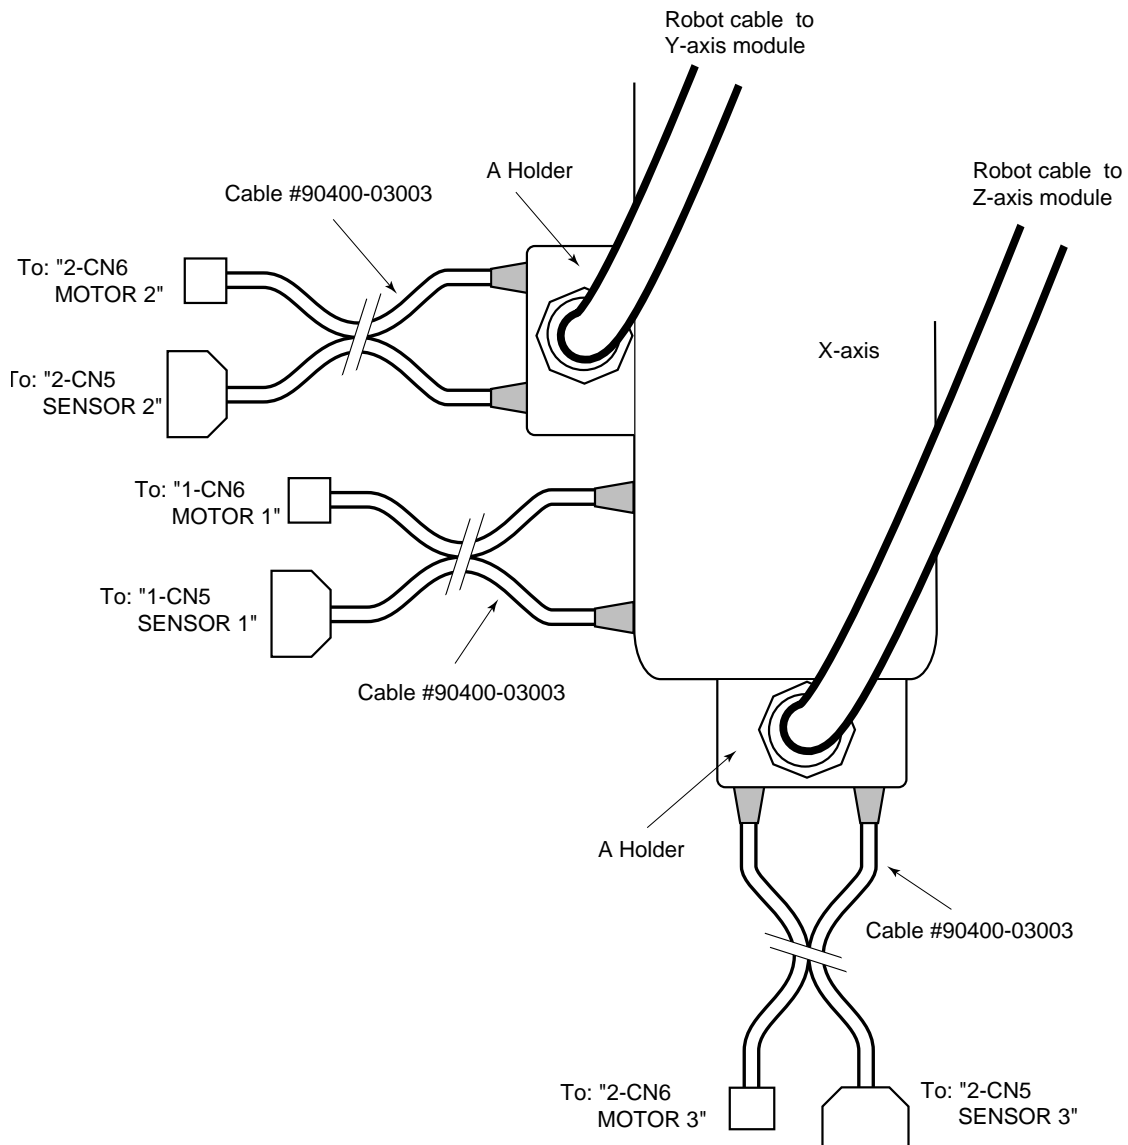

Figure 5-13. Connecting to an EXA or EXC Controller
- a. Connect the two barrel ends of the cable to the X-axis module as shown in Figure 5-13. These connectors have different pin sizes and cannot be installed incorrectly. The other ends connect to the controller connections marked “1-CN6 MOTOR 1” and “1-CN5 SENSOR 1”.
- b. Attach the A holder end of the robot cable to the side of the X-axis as shown in Figure 5-13 (refer to Section 4.3 for holder mounting).
- c. Connect the two barrel ends of the controller cable to the Y-axis cable (holder A) as shown in Figure 5-13. These connectors have different pin sizes and cannot be installed incorrectly. The other ends connect to the controller connections marked “2-CN6 MOTOR 2” and “2-CN5 SENSOR 2”.
- b. Attach the A holder end of the robot cable to the end of the X-axis as shown in Figure 5-13 (refer to Section 4.3 for holder mounting).
- c. Connect the two barrel ends of the controller cable to the Z-axis cable (holder A) as shown in Figure 5-13. These connectors have different pin sizes and cannot be installed incorrectly. The other ends connect to the controller connections marked “2-CN6 MOTOR 3” and “2-CN5 SENSOR 3”.